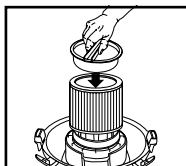

FIGURE 15
22. Place filter retainer into the top of the cartridge filter. **FIGURE 15.**